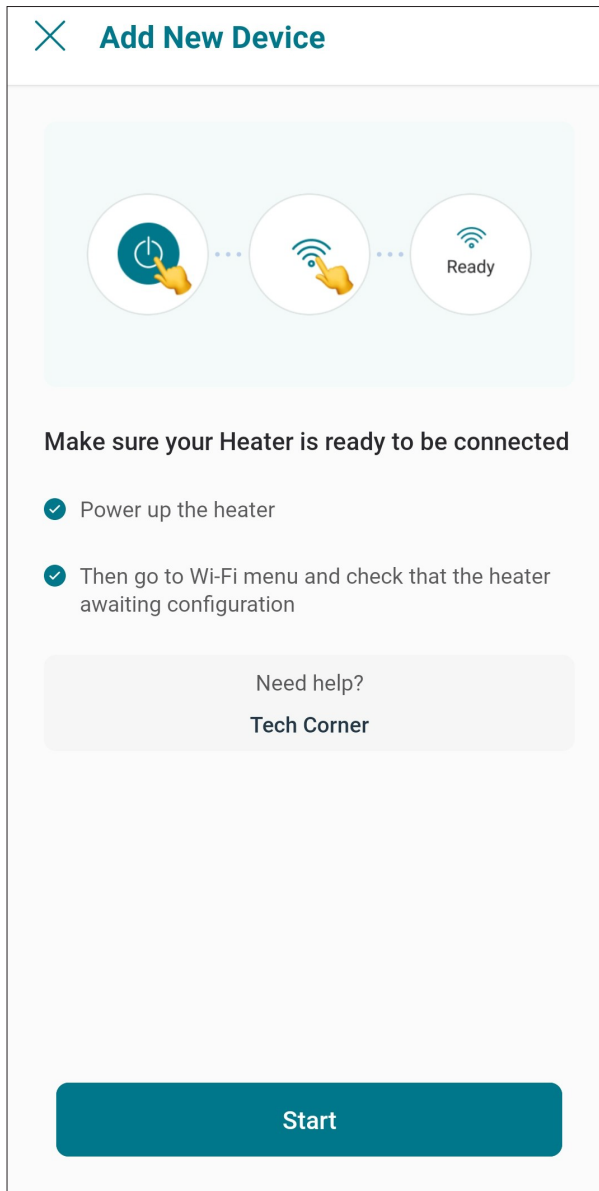

Figure 115. Check your Unit
4. "Check your Device" screen will appear. Ensure to have the heater powered and Wi-Fi signal available in the area, then press "Ready" button. See **Figure 115**.